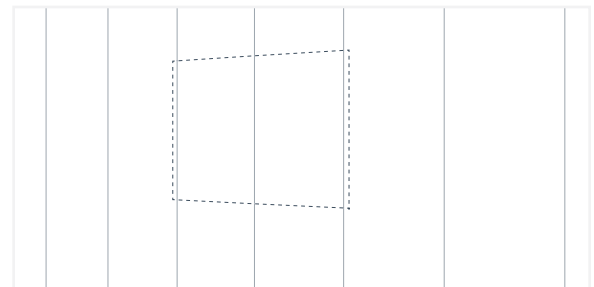

Fig. 50
1. Measure and mark the perimeter of your chosen mounting device. Ensure the mounting points can be affixed to the supporting structure (i.e., wall studs). Add one quarter of an inch to all sides to allow for expansion and contraction of the panels (Fig. 50).